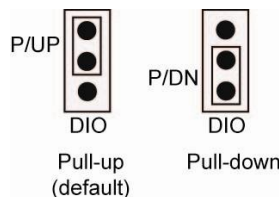

Figure 6. Pull-up/down jumper configuration
5. Configure the jumper for pull-up or pull-down, as shown in Figure 6.